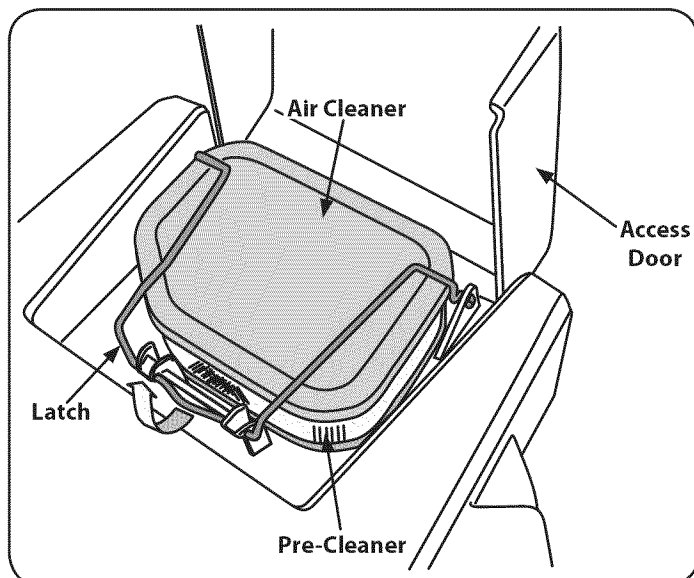

Figure 25
- Open the air cleaner access door and unhook the latch. See Figure 25.